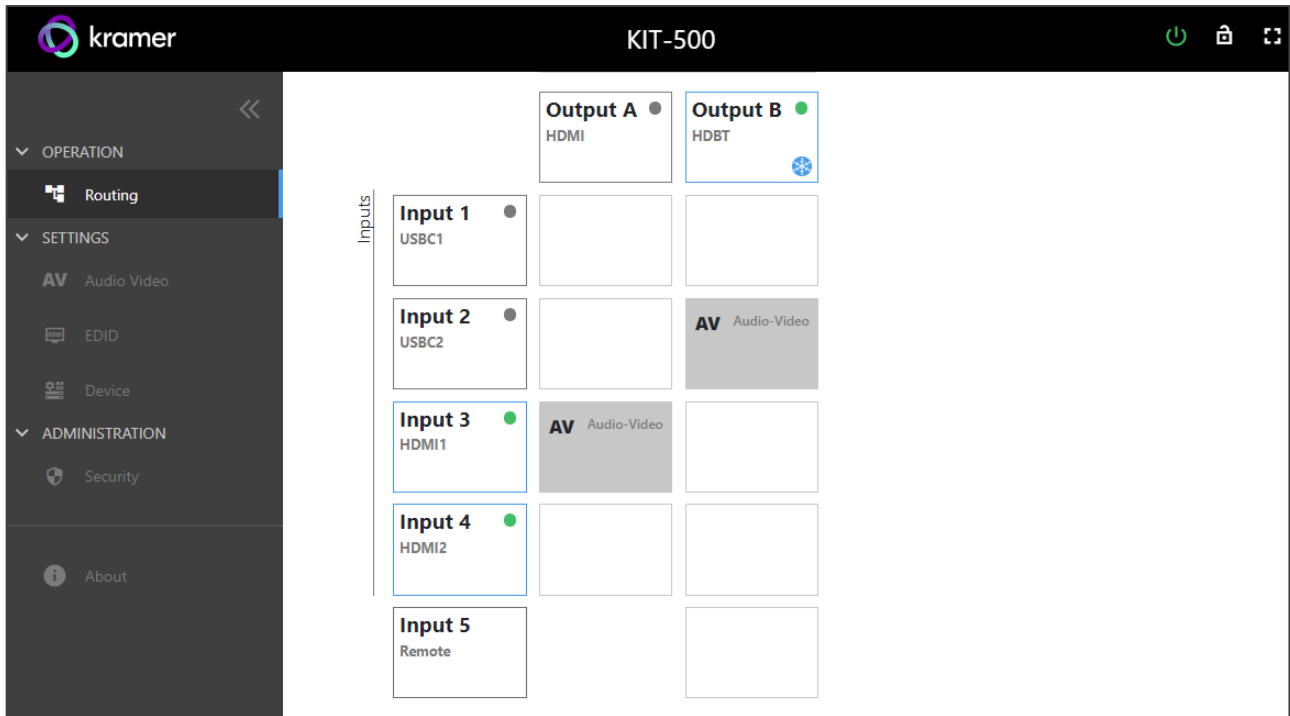

Figure 13: Routing Page
1. In the Navigation List, click the **OPERATIONS** drop-down arrow and select Routing. The Routing page appears (see Figure 13).
1. Click **AV** on the Navigation List. The AV Settings page appears (see Figure 13).